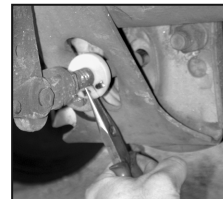

Fig. 8
Step 8. With clip fully inserted, pull and bend the tabs toward each other and into the recessed area of the indicator. (Fig. 8)